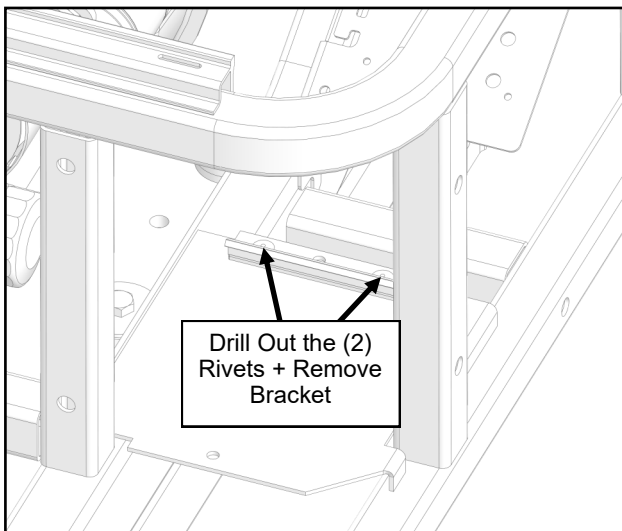

Fig. 1.4 (Remove Rear Battery Bracket)
- 1.4 Drill out the (2) Rivets holding the rear bracket in-place, see figure 1.4. Discard old bracket.